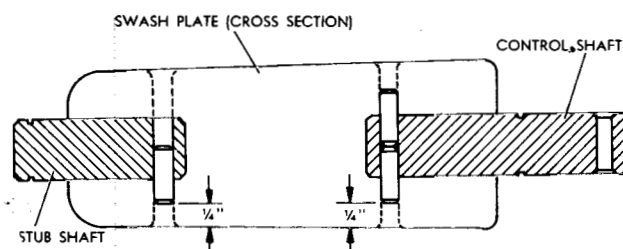

FIG. 57.
4. Insert the swash plate assembly into the case. Slide the trunnion shafts into each side, and into the swash plate housing. Line up the roll pin holes and install the roll pins. One roll pin is used at the short trunnion shaft and two roll pins are used at the control shaft. Drive the first pin in so it enters into the far side of the swash plate. Then drive the second roll pin down against the first pin until it is $\frac{1}{4}$ " below the surface of the swash plate. Drive the single roll pin at the short trunnion side so that it is $\frac{1}{4}$ " below the surface. See Fig. 57.